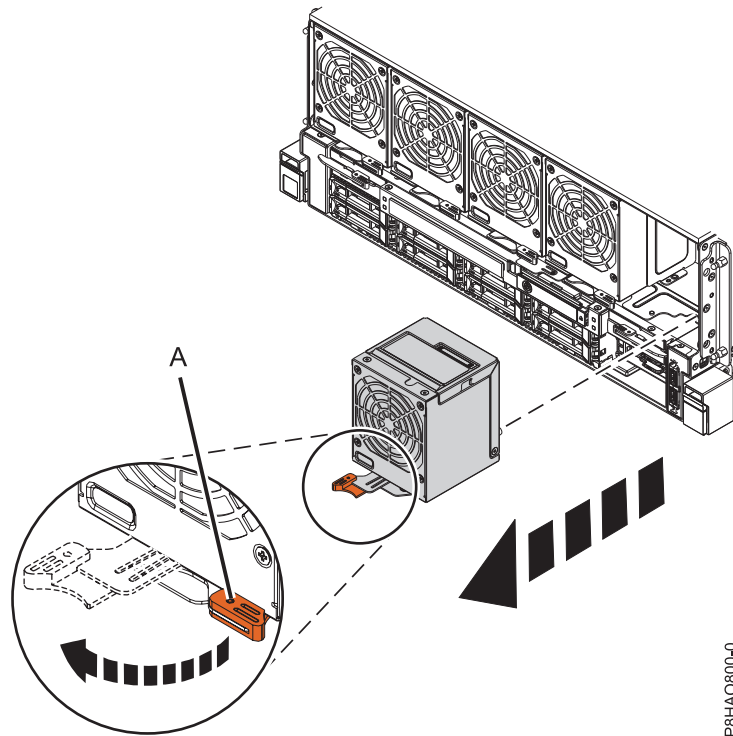

Figure 8. Removing the front fan
1. Rotate the fan handle (A) in the direction shown in Figure 8 on page 9 to unlock the fan from its slot.